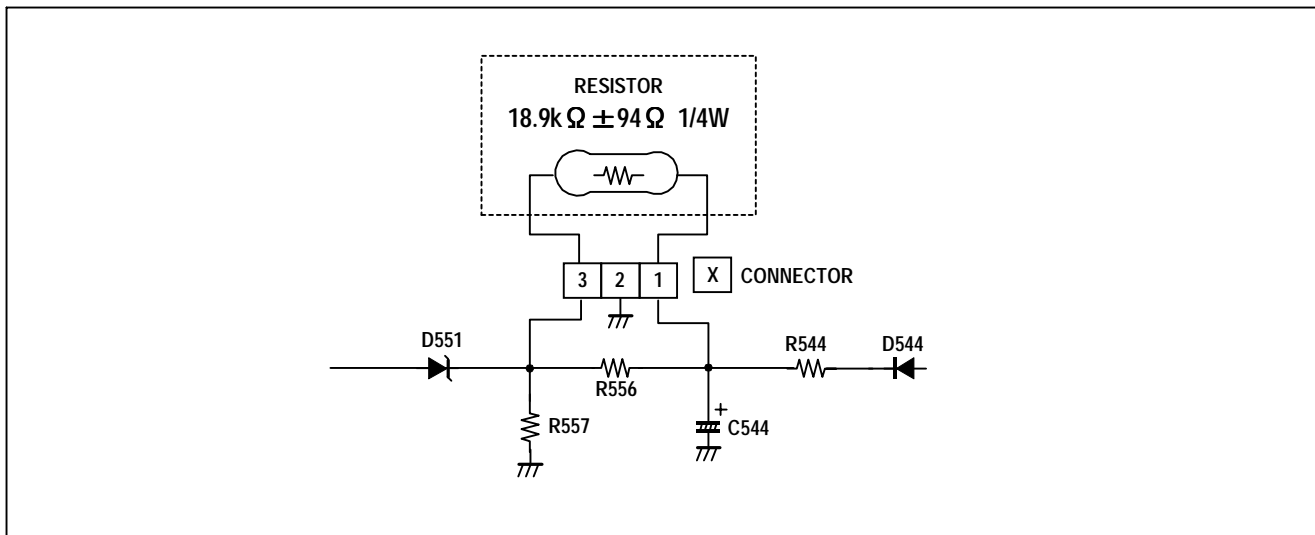

Fig.2
- (1) Turn the POWER SW ON.
- (2) As shown in Fig.2, set the resistor (between 【X】 connector 【1】 & 【3】).
- (3) Make sure that the screen picture disappears.
- (4) Temporarily unplug the power cord.
- (5) Remove the resistor (between 【X】 connector 【1】 & 【3】).
- (6) Again plug the power cord, make sure that the normal picture is displayed on the screen.